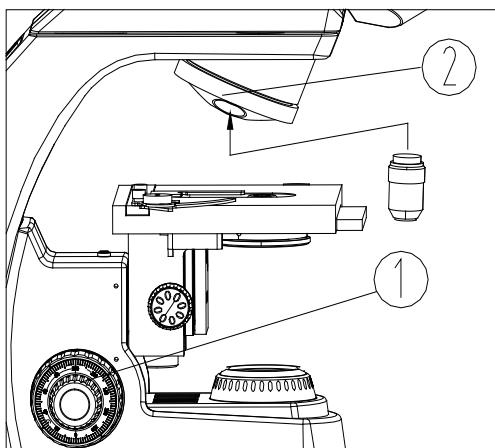

Fig. 4
1. Rotate the coarse focusing knob ① to lower the stage to a suitable position (see Fig. 4).
2. Install the objectives into the objective nosepiece ② from the lowest magnification to the highest in a clockwise direction from the rear.